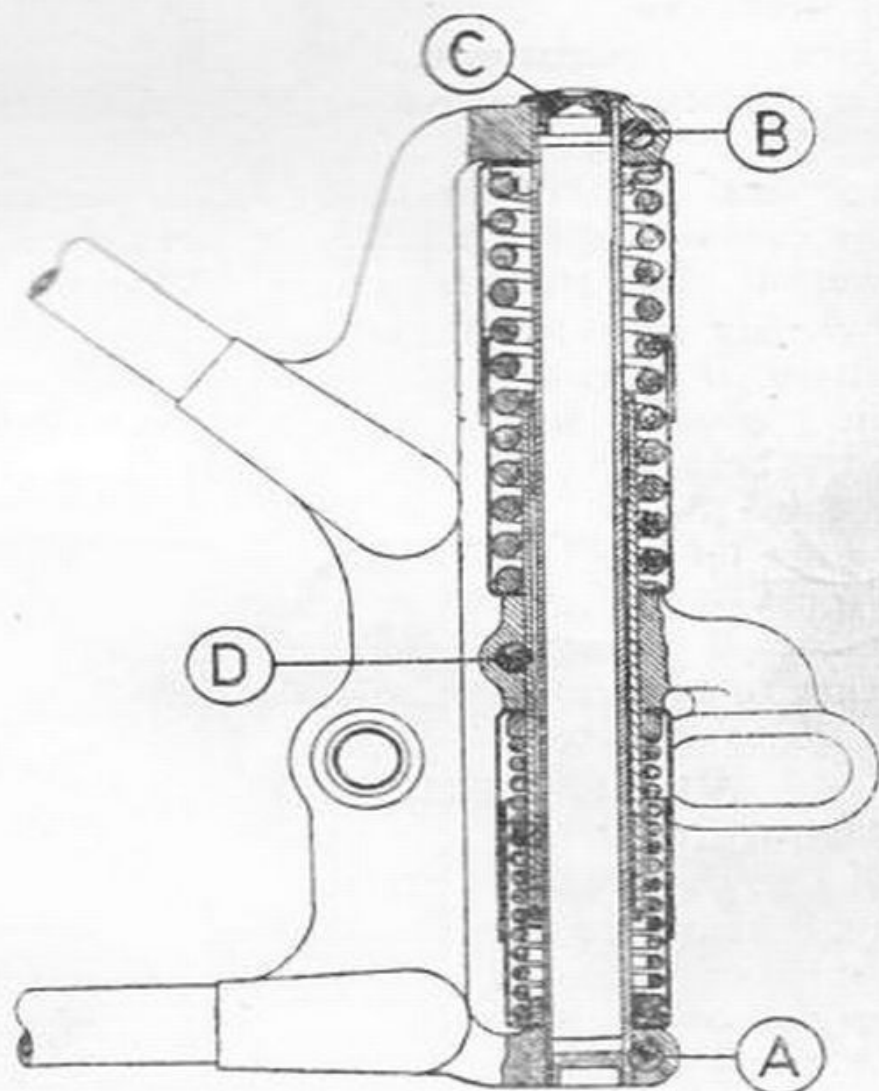

Fig. 26. Rear Suspension Unit
*Pinch bolts.* These are located at the top and bottom of the suspension unit as shown at *B* and *A* (Fig. 26), and after removing the latter the silencers can be taken off.